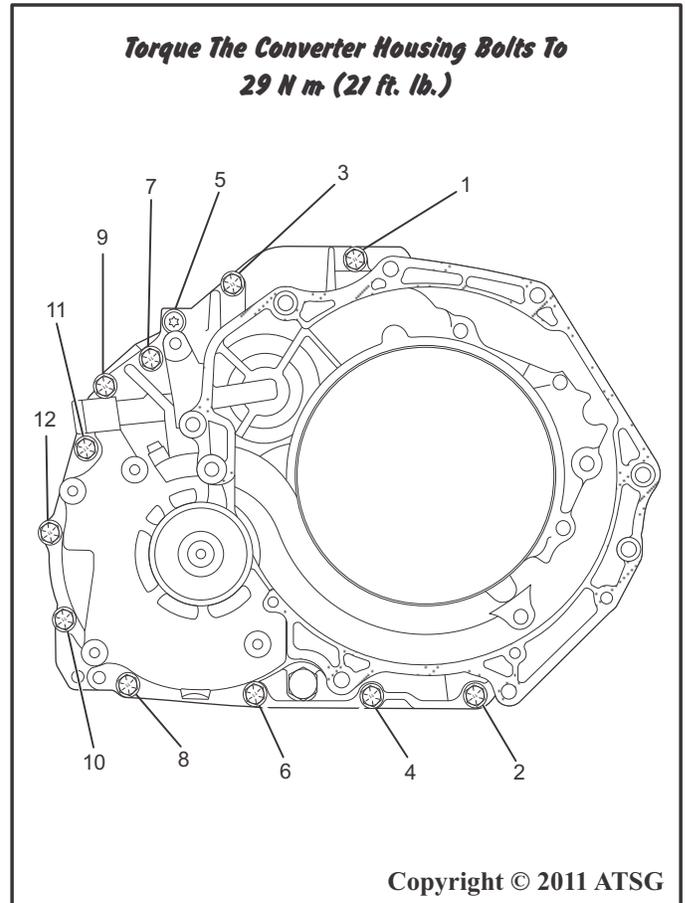

Figure 82
3. Using an appropriate torque wrench, torque the twelve converter housing attaching bolts to 29 Nm (21 ft. lb.) in a cross-wise fashion using the pattern shown in Figure 82.